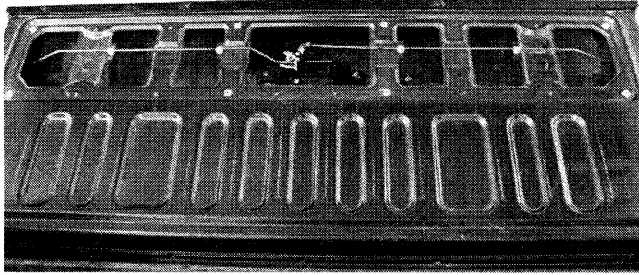

Figure 1
1. Remove panel from the tailgate to gain access to the mounting components of the tailgate handle (**figure 1**).